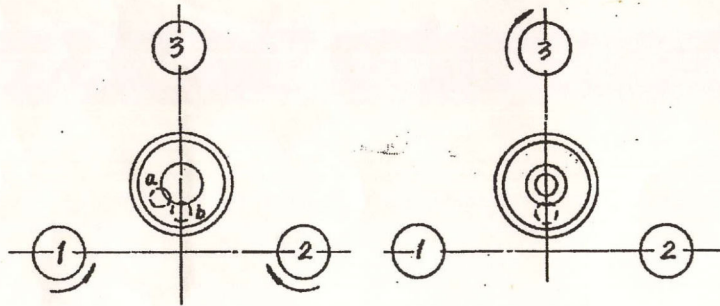

Fig.5
- 3.6. Adjust the three foot-screws to get the bubble in the center. (See. Fig. 5)